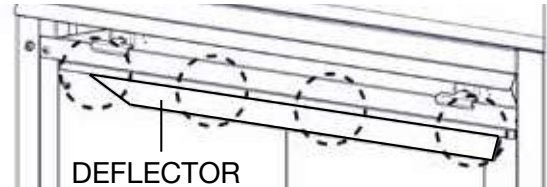

Fig. 1
- To ease assembly, remove the 4 hex head screws, securing the deflector from inside the top front of the firebox (**Fig. 1**). Set deflector aside.